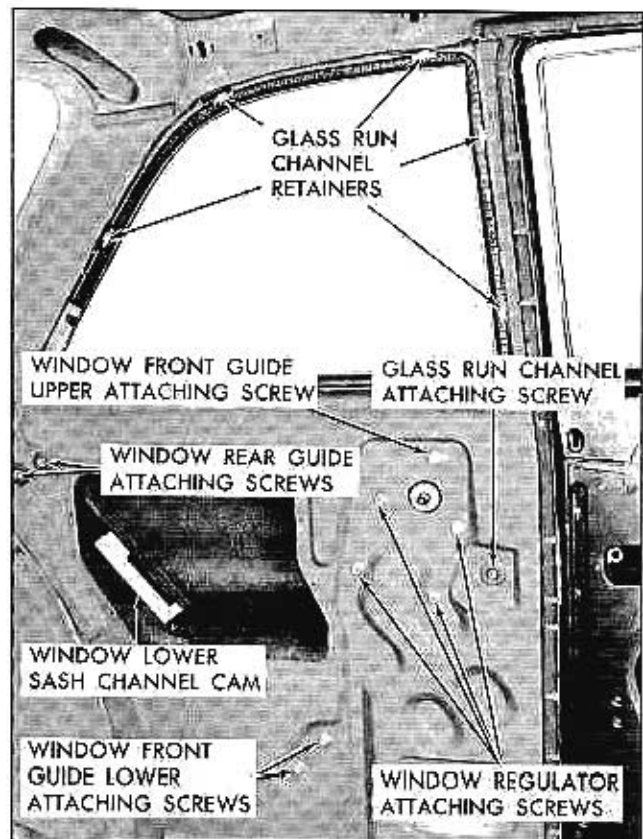

Fig. 3-4 Rear Quarter Hardware—11 Styles
2. Remove rear quarter window glass run channel attaching screw (Fig. 3-4). Carefully remove glass run channel from retainers in rear quarter pillar and side roof rail.
2. Remove access hole cover from inner panel. Loosen window front guide upper attaching screw. Remove window rear guide attaching screws and remove guide (See Fig. 3-4).
To adjust rear quarter window fore or aft, loosen front guide attaching screw (Fig. 3-4). Adjust window and guide fore or aft as required and tighten attaching screws.
3. Remove front guide upper and lower attaching screws (Fig. 3-4). Disengage guide from roller on window lower sash channel; move front guide assembly rearward between panels sufficiently to allow
3. Remove rear guide attaching screws (Fig. 3-4).
2. Remove access hole cover from inner panel. Remove front guide upper attaching screw and glass run channel attaching screw (See Fig. 3-4).
4. Remove window regulator attaching screws (Fig. 3-4), disengage regulator arm roller from window lower sash channel cam and remove regulator assembly through large access hole.